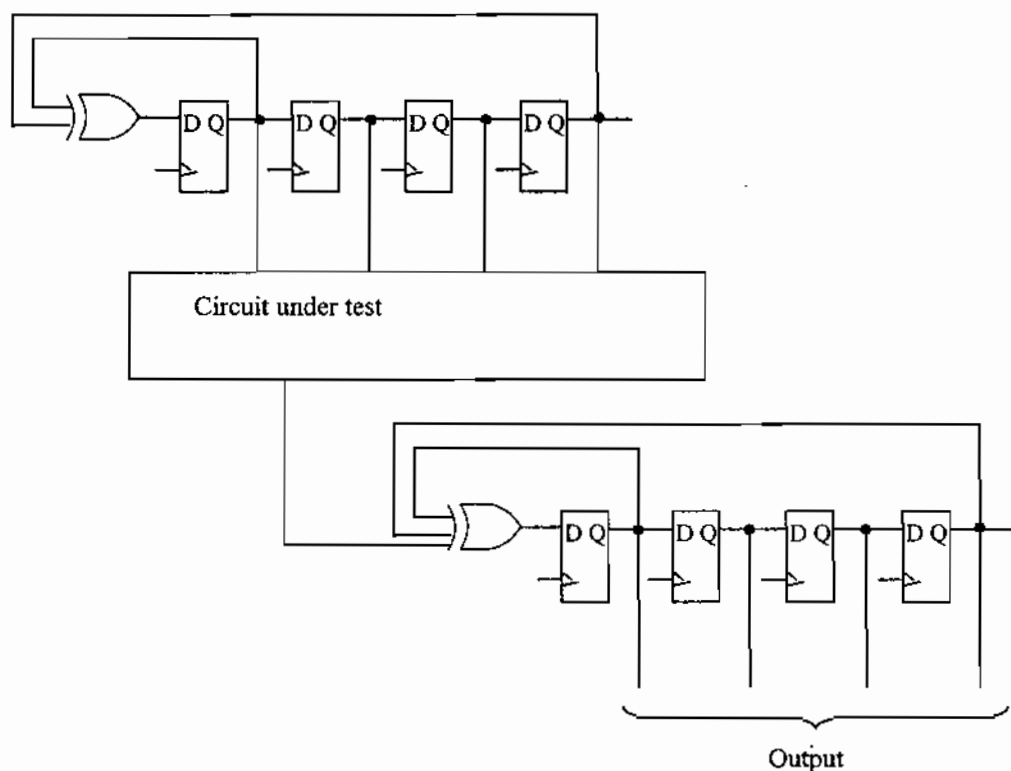

Fig 4a Circuit test structure
- c Explain the operation of each part of the circuit test structure (figure 4a) and reason for its usage. **3 marks**